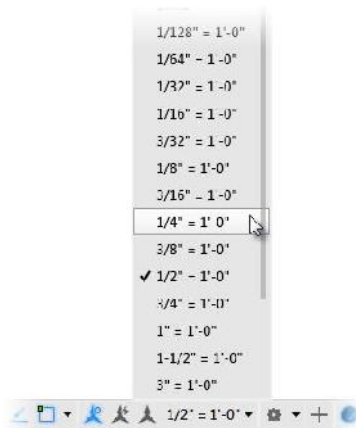

FIGURE 8.17: Changing the annotation scale from the status bar
3. Click the Annotation Scale button on the status bar, and change the scale to $1/4" = 1'-0"$ (1:50), as shown in Figure 8.17.